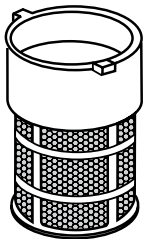

Figure 29. Fuel Strainer
3. Next, remove, inspect and clean the fuel strainer (Figure 29) with solvent.